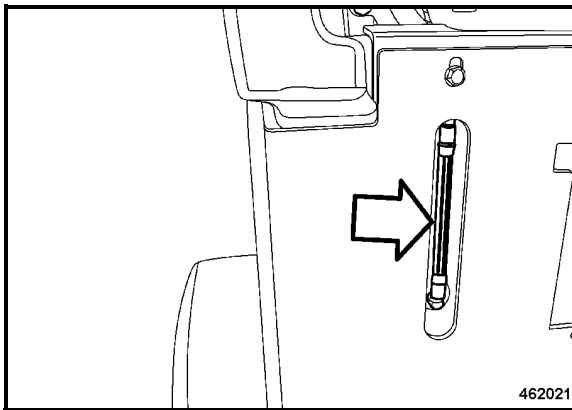

Fig. 119
- Check the water tank filling level on the water level gauge (Fig. 119).